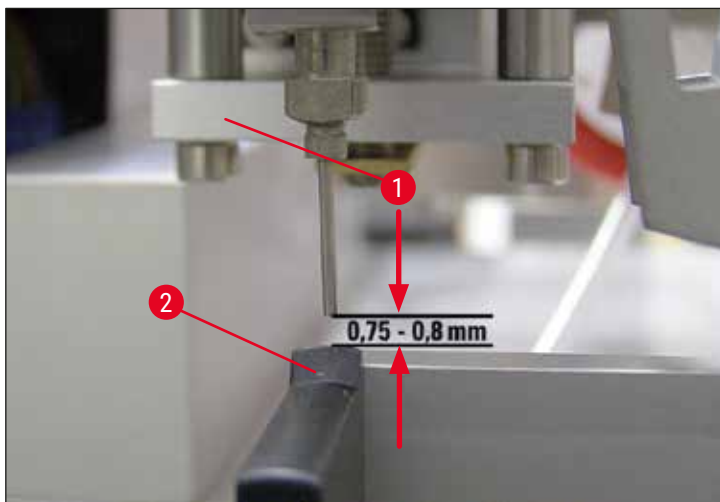

Fig. 16
8. The set height of the dispenser needle can be inspected again by a visual inspection from the front (→ Fig. 16).